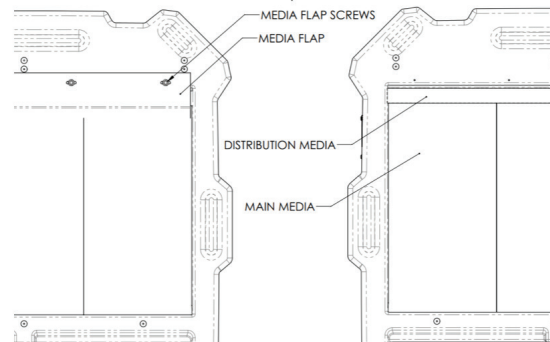

Figure 1: Portacool Apex unit back view (left), Portacool Apex unit back view without media flap (right).
1. First, unscrew the Media Flap Screws using a 5/16" socket and remove the Media Flap. Pull the Distribution Media and all the Main Media out of the unit (Figure 1).